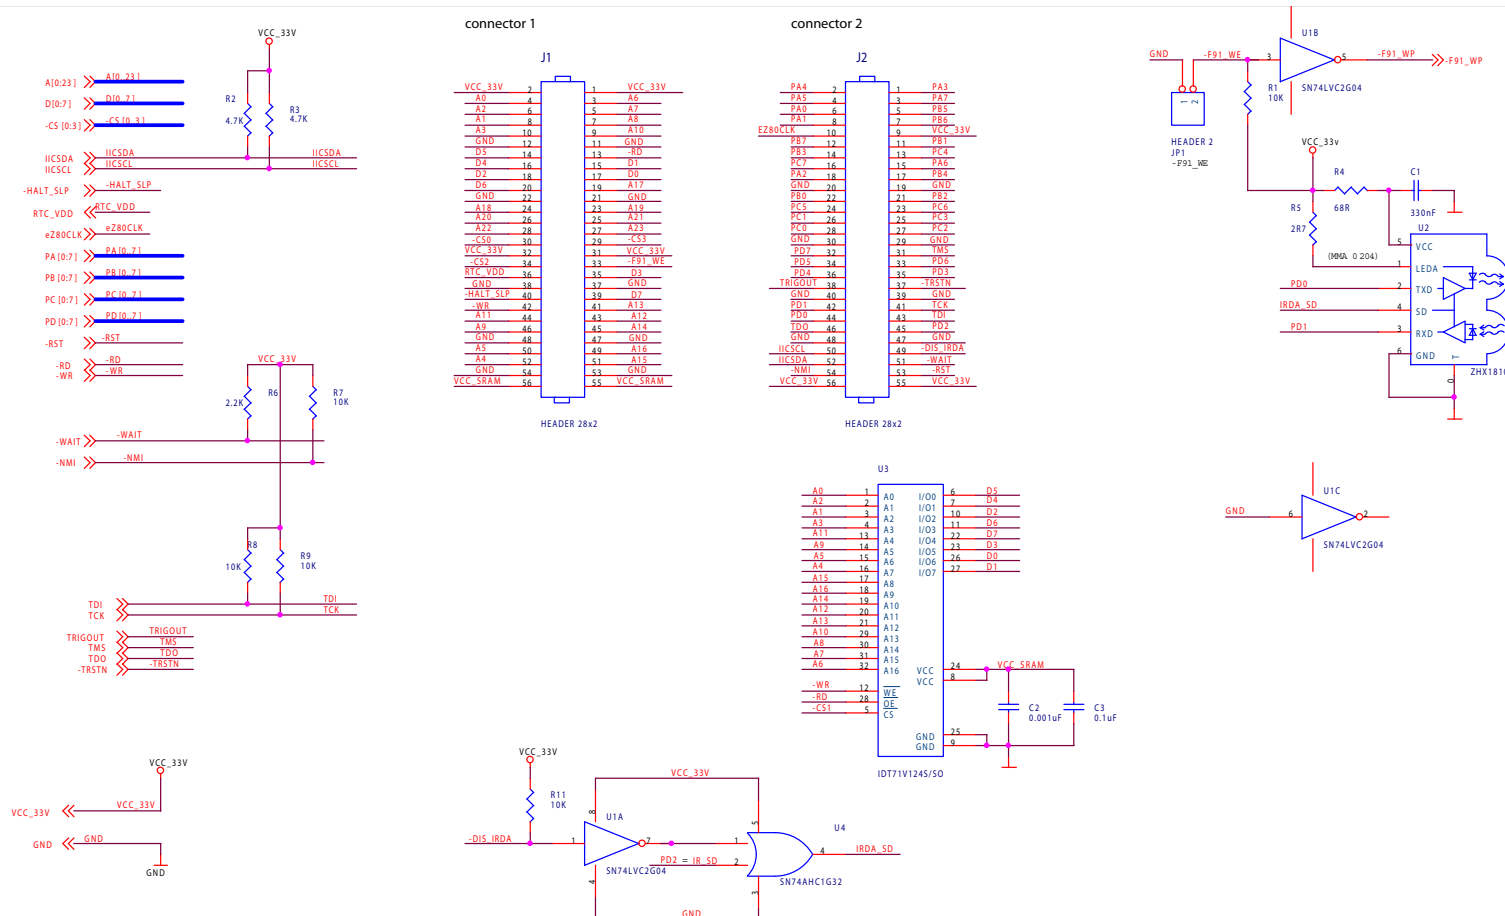
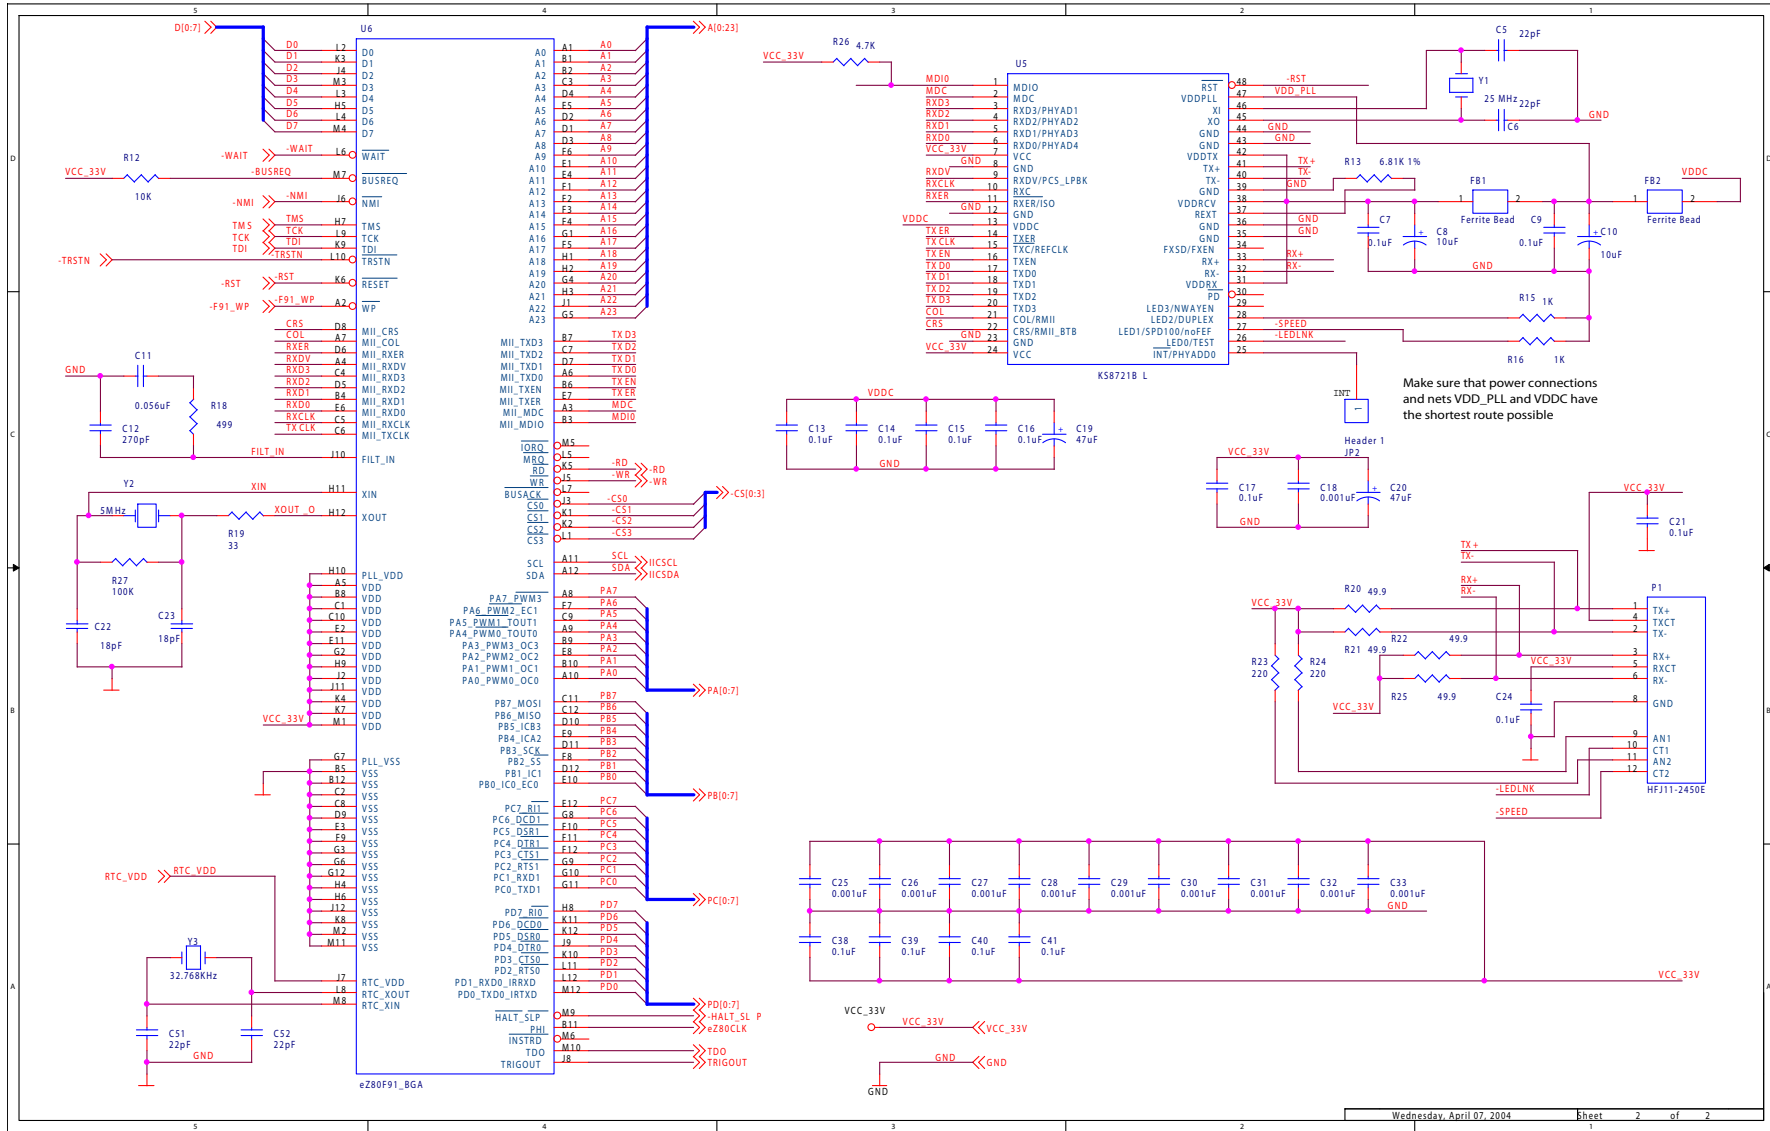

Figure 5. eZ80F91 Mini Enet Module for eZ80AcclaimPlus!TM Schematic Diagram, #1 of 2—Connectors and Miscellaneous
Figure 6. eZ80F91 Mini Enet Module for the eZ80AcclaimPlus!™ Schematic Diagram, #2 of 2—CPU and PHY
1. For the sake of simplicity in describing the interface, Power and Ground nets are omitted from this table. The entire interface is represented in the eZ80F91 Mini Enet Module schematics (see Figure 5 on page 14 and Figure 6 on page 15).
Figure 5 and Figure 6 display the layout of the eZ80F91 Mini Enet Module for eZ80AcclaimPlus!. IrDA circuitry devices are not installed on the eZ80F91 Mini Enet Module for eZ80AcclaimPlus!. However, these devices appear in the following schematics for reference purposes. Please see “IrDA Transceiver” on page 11 for additional information.